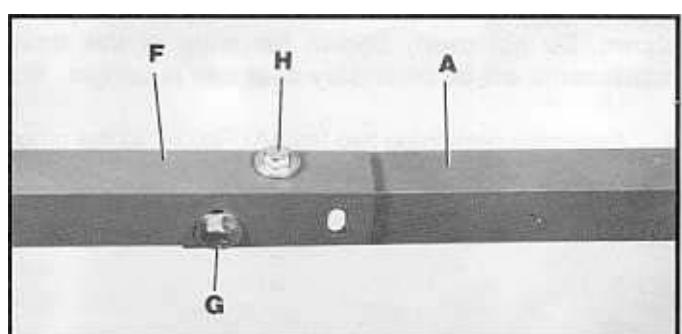

Fig. 11
4. Assemble lower leg section (F) Fig. 11, over upper leg (A) as shown using two 1½ inch-long screws, (G) and (H) Fig. 11, four flat washers, two lockwashers and hex nuts. **NOTE:** Assemble screw (G) Fig. 11, first. **IMPORTANT:** Lower leg (F) must overlap leg (A). Do not completely tighten hardware at this time. Adjustments will be necessary after unit is upright.